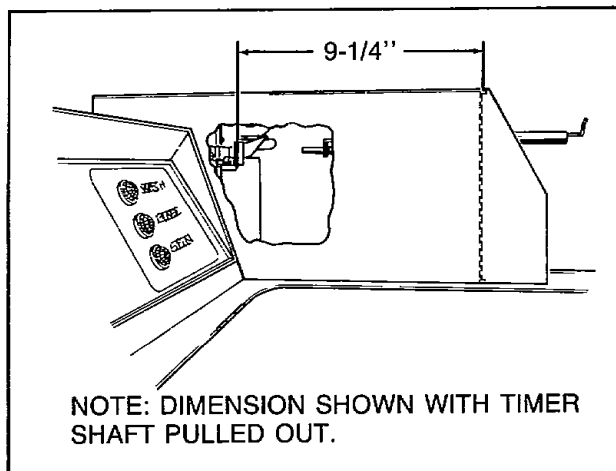

Figure 5
**IMPORTANT:** Timer bracket must be installed with bosses on bottom of timer bracket fitting into holes in meter case, and clutch must be positioned as shown in *Figure 5*. Locking lever (models equipped with Mallory Timer) must drop behind clutch when timer shaft is pulled out, and must be lifted by inner end of coin slide (allowing timer shaft to move in) when slide is actuated.